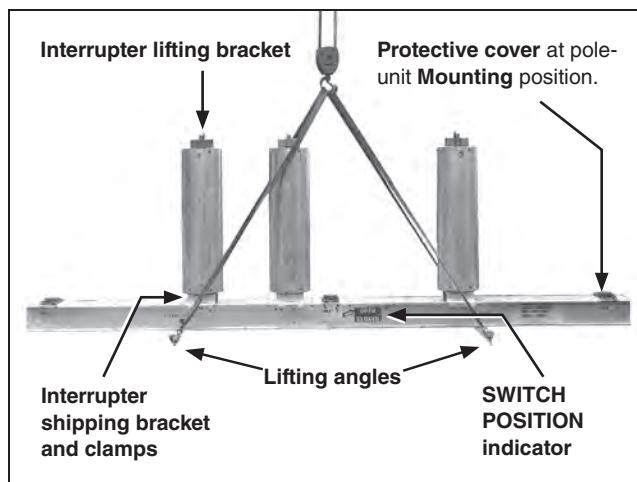

Figure 5. Hoisting the high-speed base using a crane.
STEP 8. Attach the supplied lifting angles to the high-speed base using the $\frac{1}{2}$ -12×1 $\frac{1}{4}$ -inch hex-head galvanized steel cap screws furnished. See Figure 5. Securely tighten the cap screws, and then attach four suitable lifting slings to the lifting angles.
- (e) Remove the protective cover on the high-speed base at the pole-unit **Mounting** position. See Figure 5 on page 12. Continue to raise the pole-unit to its mounting position at the center of the high-speed base, as shown on the catalog drawing. Carefully guide the pole-unit to avoid damaging the insulated operating rod.